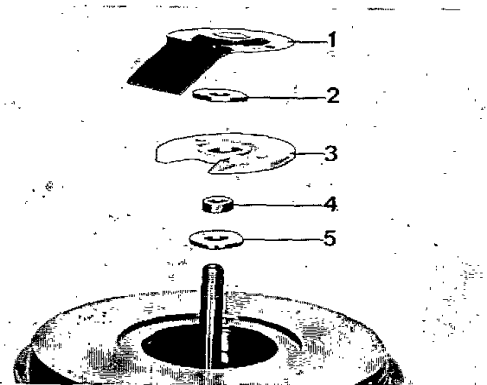

Fig. 202. Axial bearing, 4L
5. Fit the inner thrust washer (5, fig. 202), the spacer ring (4), the thrust bearing (3), the outer thrust washer (2) and the oil guide plate (1).